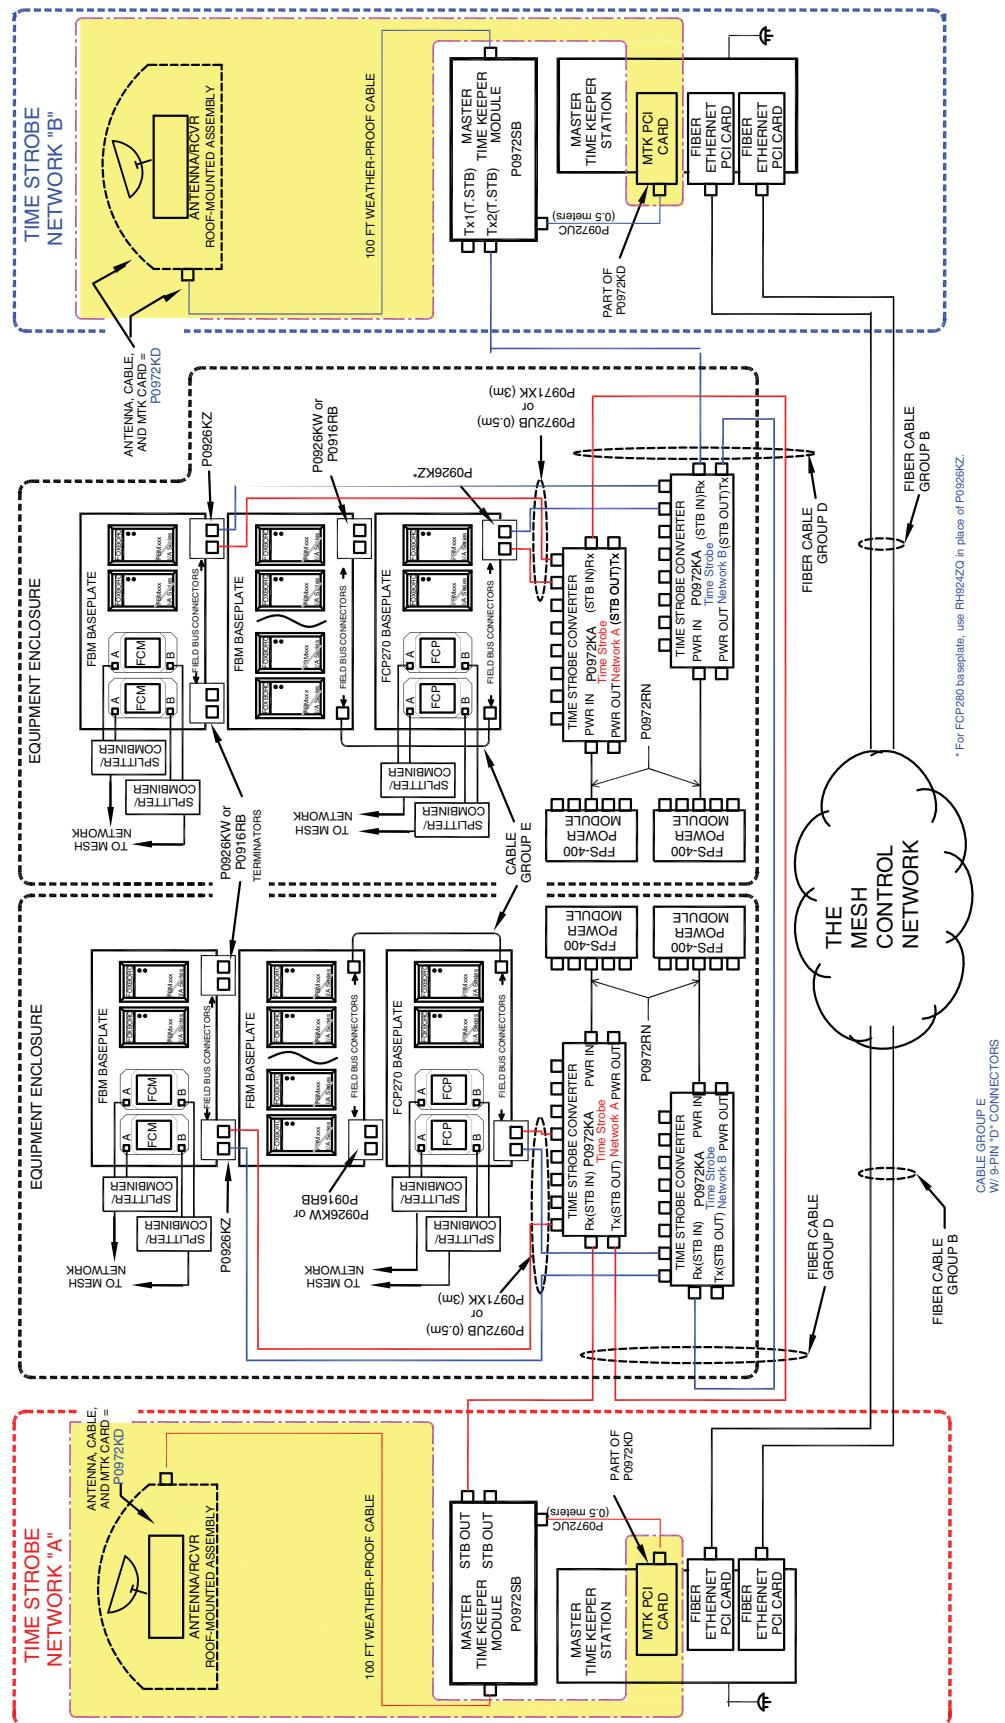

Figure A-3. FCP270 with Wire Antenna Connection, Redundant Cabling
- ◆ Extended Time Strobe Network - FCP270 with Wire Antenna Connection, Redundant Cabling (Figure A-3)